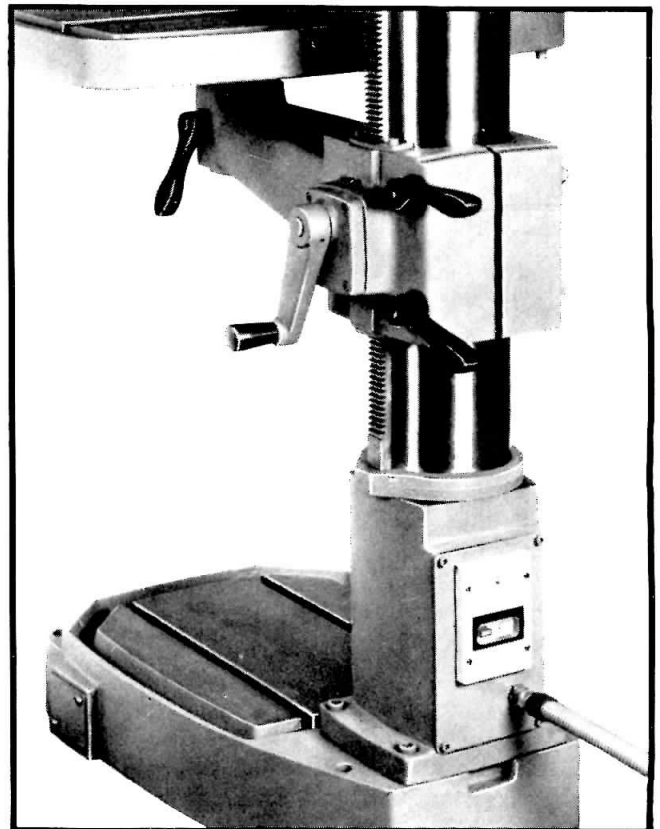

FIG. 3
1. Remove power disconnect switch (Fig. 3) at rear base of machine by removing four screws holding it closed.
C — SPINDLE MECHANICAL FEED (FIG. 3)